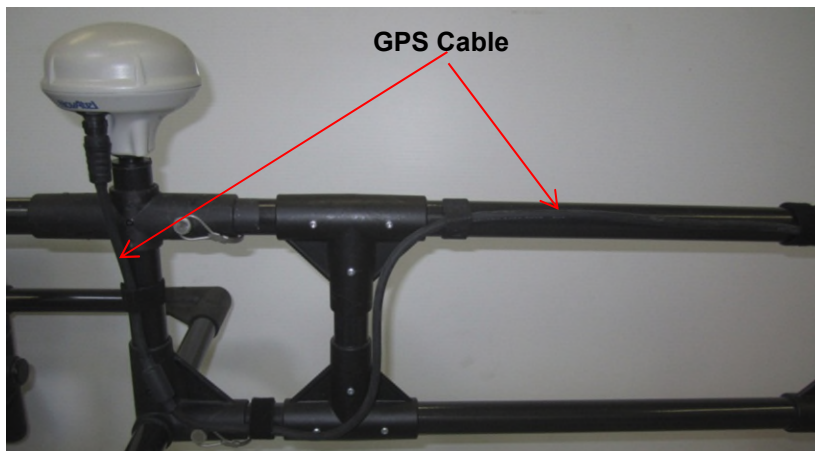

Figure 2-79: Routing GPS cable
1. Route the GPS cable up to the top of the SmartChariot Handle Assembly (Figure 2-79).